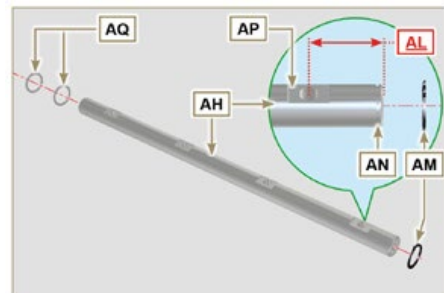

Fig 9.54
- To correctly position the rocker arms, turn the rocker arm pin **AH** with the lower height **AL** towards the timing system side as in **Fig.9.54**.